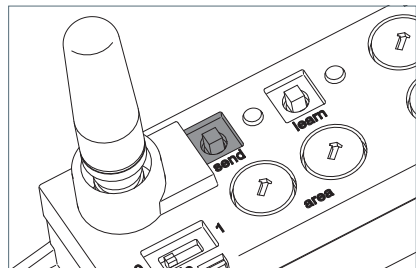

Fig. 26: "send" key
- ▶ Press the "send" key, see Fig. 26.